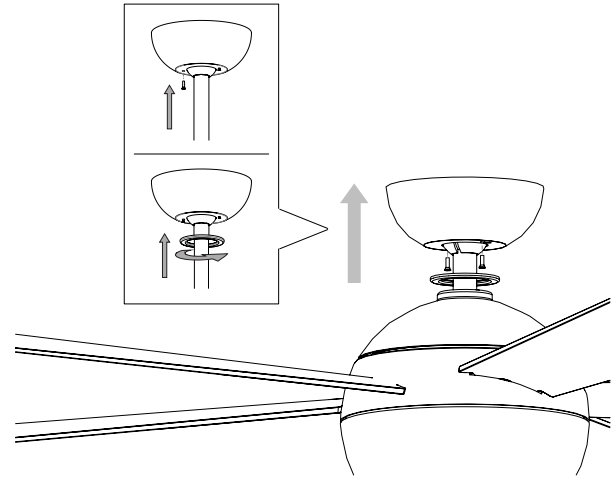

FIGURE 23
3. Slide the canopy up to the hanger bracket and place the key hole on the canopy over the screw on the hanger bracket. Turn canopy until it locks in place at the narrow section of the key holes (Fig. 23).
5. Adjust the screws as necessary until the canopy and canopy rings are snug (Fig 23).